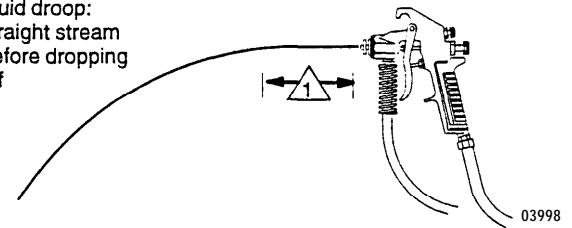

Fig. 8
- With the system primed, the gun regulator (6b) closed, and the pump air regulator (6a) set as instructed in Step 10 on page 8, adjust the fluid pressure regulator (44) to the fluid manufacturer's specifications, if available. Otherwise, follow Step 2 to determine the fluid pressure setting.
- To determine the fluid pressure setting, hold the gun parallel to the floor. (Be sure to catch the fluid in a container.) With the gun air pressure turned OFF, trigger the gun. Adjust the fluid pressure regulator (4) until the straight fluid stream is within the range indicated for the viscosity of your fluid before it drops off. See Fig. 8. Make note of the pressure on the fluid gauge it is your optimal fluid pressure setting.